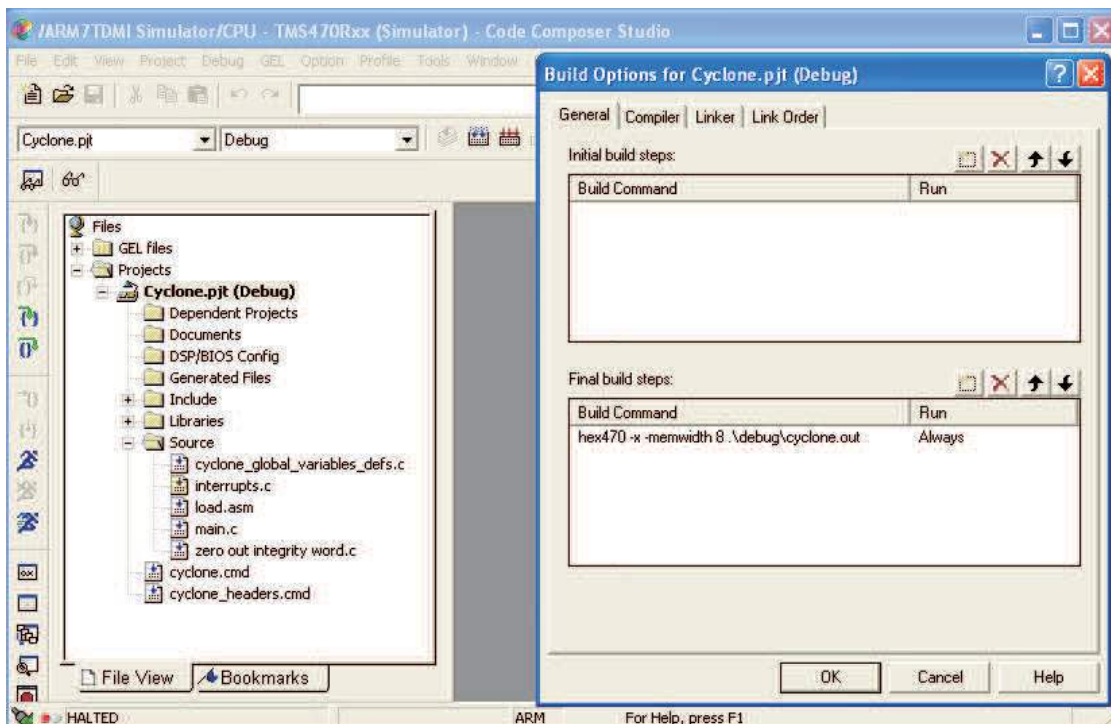

Figure 27. Open a Project File “Cyclone.pjt”- Build Options and General Tab
6. The next step is to convert file “Cyclone.out” to “Cyclone.x0”. “Cyclone.x0” will be the final firmware code to be downloaded to the UCD3138 device memories. To convert “Cyclone.out” to “Cyclone.x0”, the first step is to click “General” tab under “Build Options for Cyclone.pjt (Debug)”, as Figure 27 shown, under the “Build Command”, confirm the file to be converted is “Cyclone.out”, then click ok to close “Build Options”.